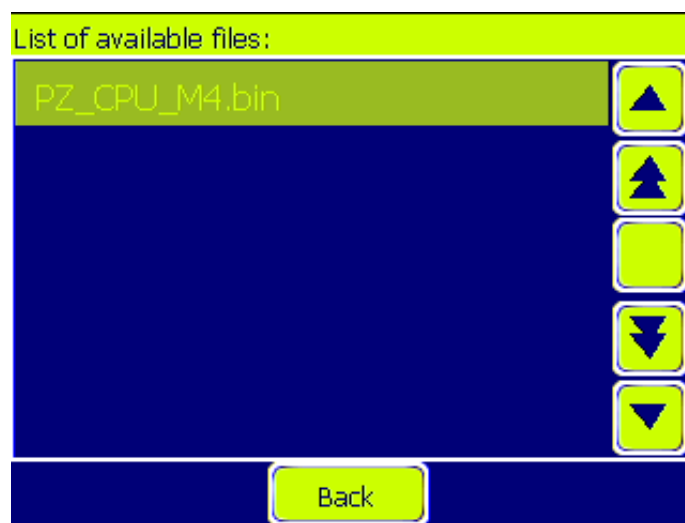

Fig. 110: The list of files read from USB memory.
- V. The screen will display a list of available files found in the root directory of a U[Ⓛ]B memory (Fig. 110). Select the appropriate program.